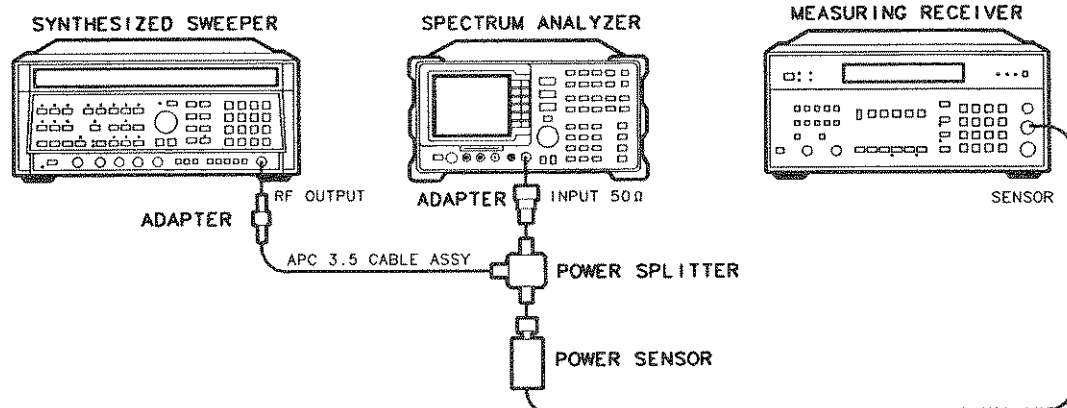

Figure 4-16. Frequency Response Test Setup, ≥ 50 MHz
2. Connect the equipment as shown in Figure 4-16. *Option 026:* Connect the output of the power splitter to the analyzer input directly.